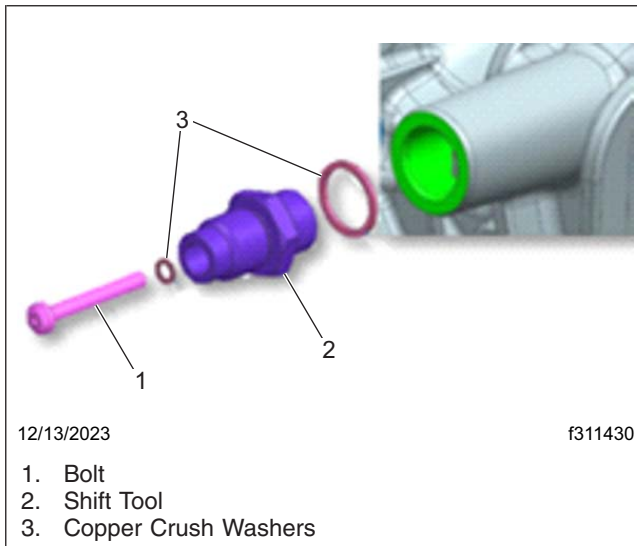
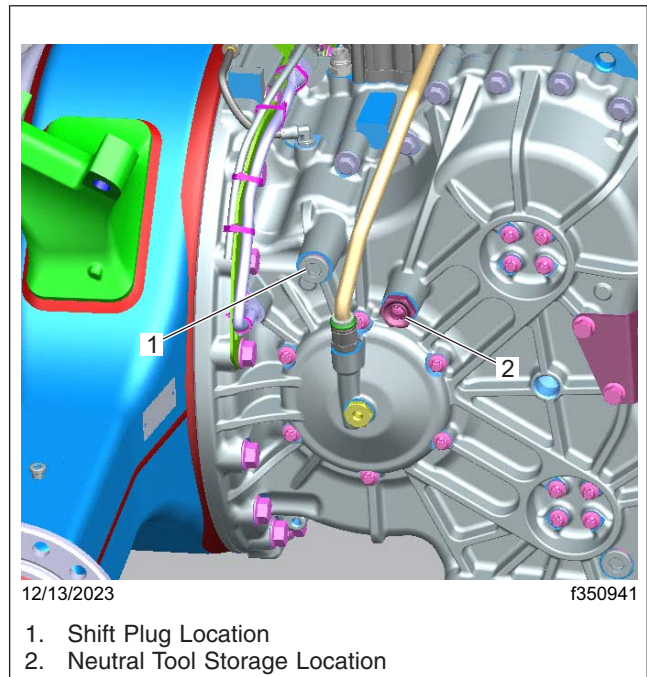

Fig. 20, Gear Shift Tool
Fig. 21, Shift Plug and Neutral Tool
77. Install the new crush washer on the second gear tool, and install the tool in the shift location. Tighten the tool 76 to 94 lbf-ft (103 to 127 N-m). See **Fig. 20** and **Fig. 21**.